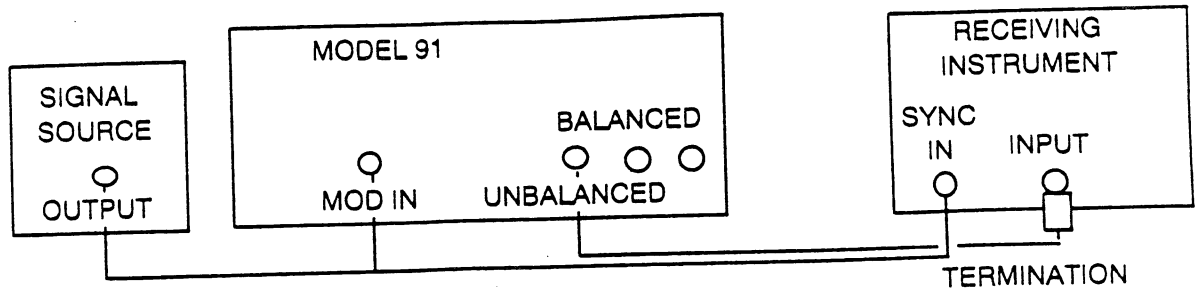

Figure 3-14. Model 91 AM and FM/VCG Setup
In Amplitude Modulation (AM), a modulating signal controls the magnitude of the Model 91 output. The Model 91 (AM selected) produces the carrier (frequency, function, and amplitude). All waveforms can be amplitude modulated. In the AM mode, minimum carrier frequency is 0.1 Hz. When the AM mode is selected (Local Operation), the unit shows a scale factor (x.xV= FS) which represents the peak to peak voltage required to produce full scale (100%) modulation. The scale factor displayed depends on the Amplitude value. For example, for an amplitude of 7.5Vpp, the AM scale factor will be 4V=F.S. (100%). Also the input value varies linearly which means for a 4V=F.S. scale factor a 2Vpp input signal produces 50% modulation. Exceeding 100% modulation can cause distorted outputs. In AM, the continuous Amplitude is limited to 7.5 Vpp or less. Figure 3-14 illustrates the Model 91 AM setup.